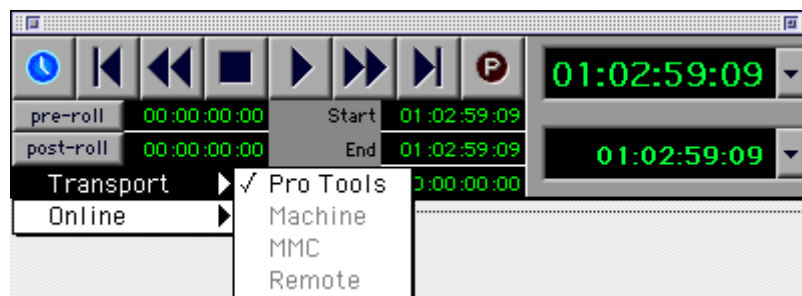

Figure A-9 Pro Tools Transport Controls
In the Transport Control, set the Transport menu to **Pro Tools** (Figure A-9).
2. Click the clock on the upper-left of the Transport Control so it highlights (as shown in Figure A-9). This sets Pro Tools **Online** and relinquishes local control.